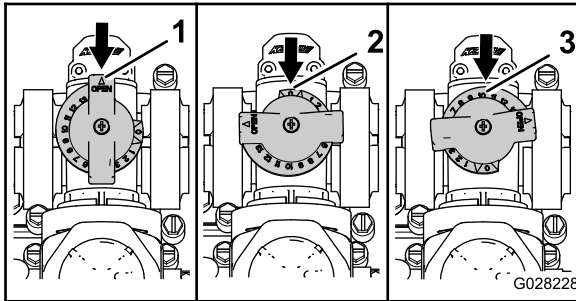

Figure 38
- The agitation bypass valve is in the full Open position as shown in A of Figure 38.
- The agitation bypass valve is in the Close (0) position as shown in B of Figure 38.
- The agitation bypass valve is in an intermediate (adjusted relative to the pressure gauge for the sprayer system) position as shown in C of Figure 38